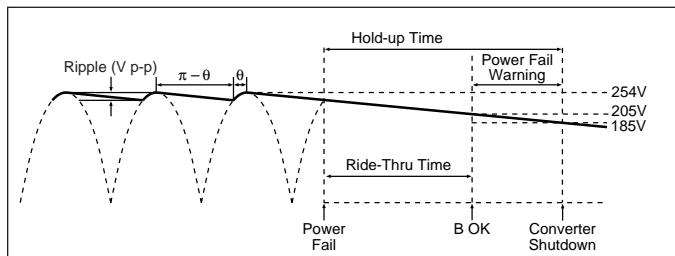
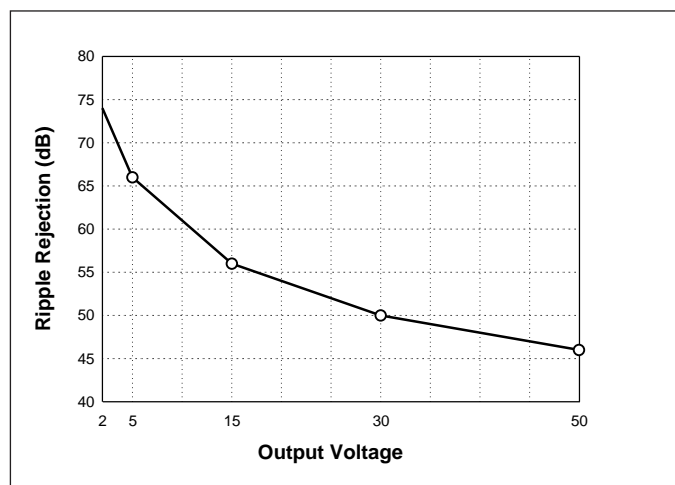

Figure 13—Hold-up time
Figure 17—Converter ripple rejection vs. output voltage
Hold-up capacitor values should be determined according to output bus voltage ripple, power fail hold-up time, and ride-through time (see Figure 13). Many applications require the power supply to maintain output regulation during a momentary power failure of specified duration, i.e., the converters must hold-up or ride through such an event while maintaining undisturbed output voltage regulation. Similarly, many of these same systems require notification of an impending power failure in order to allow time to perform an orderly shutdown.
The power fail warning time (Δt) is defined as the interval between BOK and converter shutdown (EN) as illustrated in Figure 13. The Bus-OK and Enable thresholds are 205 V and 185V, respectively. A simplified relationship between hold-up time, operating power, and bus capacitance is obtained by inserting these constants in equation (3):
For example, a converter whose output is 15V and nominal input is 300V will provide 56 dB ripple rejection, i.e., 10 Vp-p of input ripple will produce 15 mVp-p of output ripple (see Figure 17). Equation 3 is again used to determine the required capacitance. In this case, V_1 and V_2 are the instantaneous values of bus voltage at the peaks and valleys (see Figure 13) of the ripple, respectively. The capacitors must holdup the bus voltage for the time interval (Δt) between peaks of the rectified line as given by:
DC-DC Converter. Figure 17 is used to determine the ripple rejection of the DC-DC converter and indicates a ripple rejection of approximately 60 dB for a 12 V output. Since the ripple on the bus voltage is 12 Vac and the ripple rejection of the converter is 60 dB, the output ripple of the converter due to ripple on its input (primarily 120 Hz) will be 12m Vp-p.